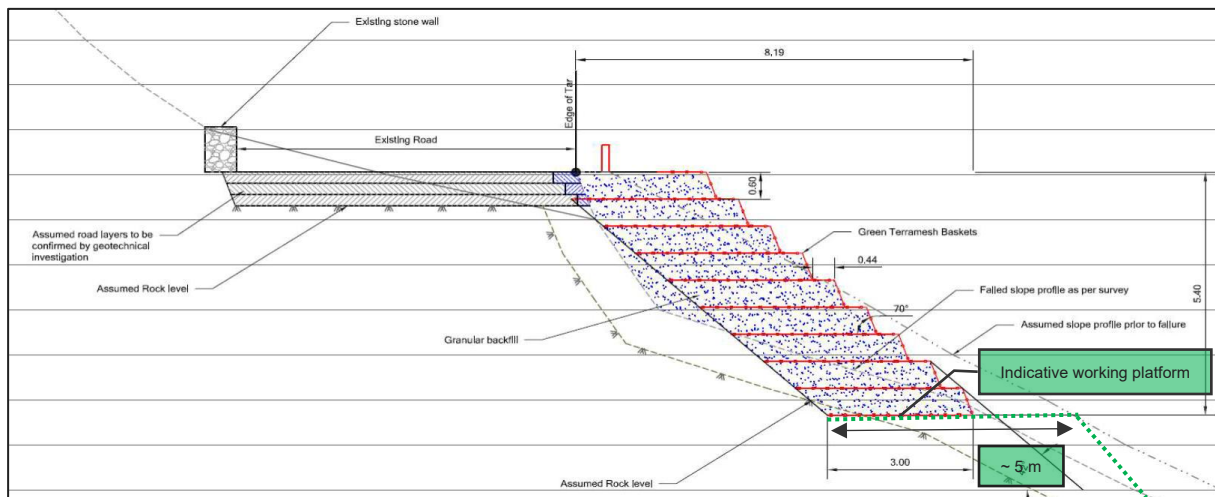

Figure 2-3: Green Terramesh slope remediation concept (Ingerop, 2024)
A conceptual cross-section of the green Terramesh slope remediation option is provided in Figure 2-3.
- ▶ **Slope area:** Clear space behind the wall is required for excavation and installation. This area or footprint will be wider if the slope is steeper (an approximate 5 m wide working platform is indicated by the dotted green line in Figure 2-3).